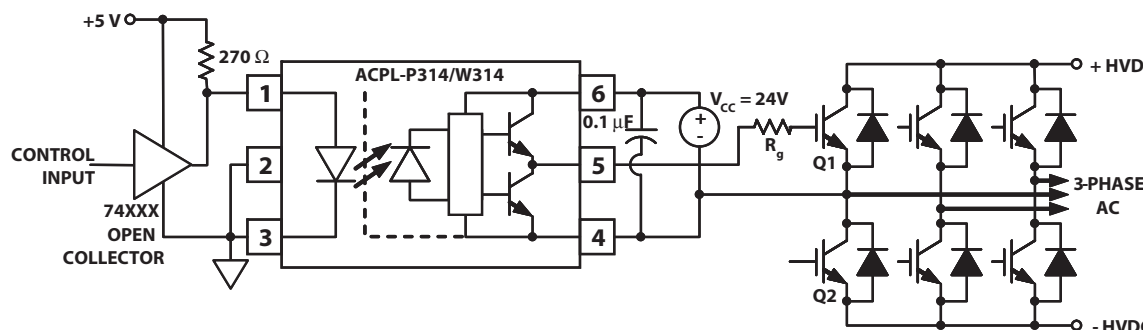
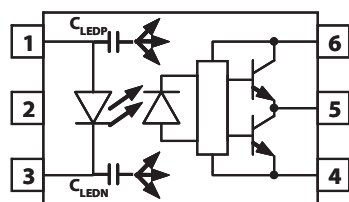
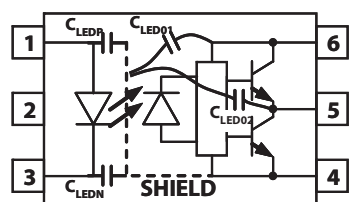
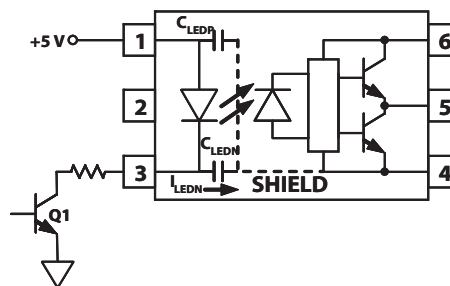

Figure 19. Recommended LED Drive and Application Circuit for ACPL-P314/W314
Figure 21. Optocoupler Input to Output Capacitance Model for Unshielded Optocouplers.
Figure 22. Optocoupler Input to Output Capacitance Model for Shielded Optocouplers.
Figure 24. Not Recommended Open Collector Drive Circuit.
To keep the IGBT firmly off, the ACPL-P314/W314 has a very low maximum V_{OL} specification of 1.0 V. Minimizing R_g and the lead inductance from the ACPL-P314/W314 to the IGBT gate and emitter (possibly by mounting the ACPL-P314/W314 on a small PC board directly above the IGBT) can eliminate the need for negative IGBT gate drive in many applications as shown in Figure 19. Care should be taken with such a PC board design to avoid routing the IGBT collector or emitter traces close to the ACPL-P314/W314 input as this can result in unwanted coupling of transient signals into the input of ACPL-P314/W314 and degrade performance. (If the IGBT drain must be routed near the ACPL-P314/W314 input, then the LED should be reverse biased when in the off state, to prevent the transient signals coupled from the IGBT drain from turning on the ACPL-P314/W314.
Step 1: Calculate R_g minimum from the I_{OL} peak specification. The IGBT and R_g in Figure 19 can be analyzed as a simple RC circuit with a voltage supplied by the ACPL-P314/W314.
where $K_{ICC} \cdot Q_g \cdot f$ is the increase in I_{CC} due to switching and K_{ICC} is a constant of 0.001 mA/(nC*kHz). For the circuit in Figure 19 with I_F (worst case) = 10 mA, $R_g = 32 \Omega$, Max Duty Cycle = 80%, $Q_g = 100$ nC, $f = 20$ kHz and $T_{AMAX} = 85^\circ\text{C}$:
Without a detector shield, the dominant cause of optocoupler CMR failure is capacitive coupling from the input side of the optocoupler, through the package, to the detector IC as shown in Figure 21. The ACPL-P314/W314 improves CMR performance by using a detector IC with an optically transparent Faraday shield, which diverts the capacitively coupled current away from the sensitive IC circuitry. However, this shield does not eliminate the capacitive coupling between the LED and optocoupler pins 5-8 as shown in Figure 22. This capacitive coupling causes perturbations in the LED current during common mode transients and becomes the major source of CMR failures for a shielded optocoupler. The main design objective of a high CMR LED drive circuit becomes keeping the LED in the proper state (on or off) during common mode transients. For example, the recommended application circuit (Figure 19), can achieve 10 kV/ μ s CMR while minimizing component complexity.
The open collector drive circuit, shown in Figure 24, can not keep the LED off during a $+dV_{CM}/dt$ transient, since all the current flowing through C_{LEDN} must be supplied by the LED, and it is not recommended for applications requiring ultra high CMR1 performance. The alternative drive circuit which like the recommended application circuit (Figure 19), does achieve ultra high CMR performance by shunting the LED in the off state.